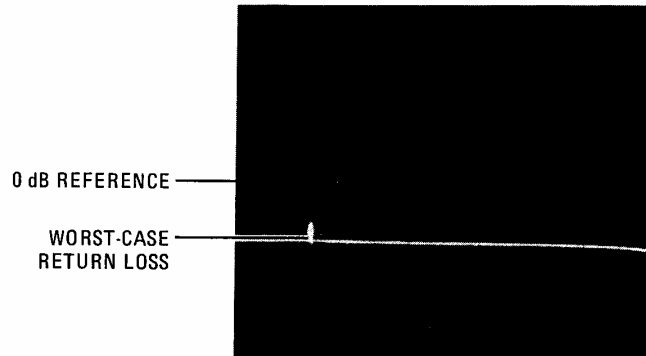

Figure 4-14. Port Return Loss (2 - 100 MHz)
- (1) Remove short and connect 8503A port R to Directional Bridge LOAD port with all other 8503A ports terminated.
- (2) Move 8505A Frequency Control MARKER 1 to worst-case Return Loss between 2 and 100 MHz as indicated on CRT (the point closest to calibration line as shown in Figure 4-14).